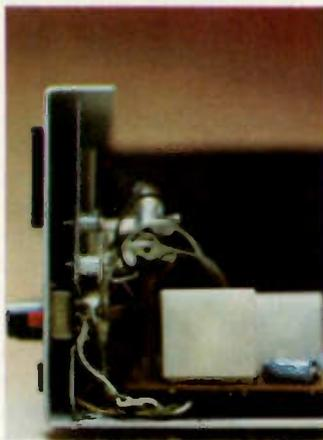

Fig. 3. The location of slide switch.
b. Where the switch is put is really up to the individual. Some folks don't like to mess up the face of their equipment, but I had a miniature DPDT slide switch which fits nicely beside the T/R Delay potentiometer. If the switch is put in the front, the mounting plate, located behind the front panel, will have to be cut away to fit. See Fig. 3.